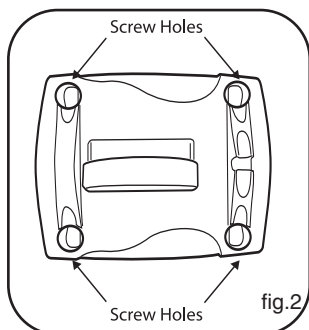

fig.2
2. Using the Wall bracket as a guide, mark position for the four 50mm wood screws. If possible locate a stud to screw into. If a stud is not available, use included wall anchors (fig. 2). Certain wall materials may require different wall anchors - not included, available at any hardware store.